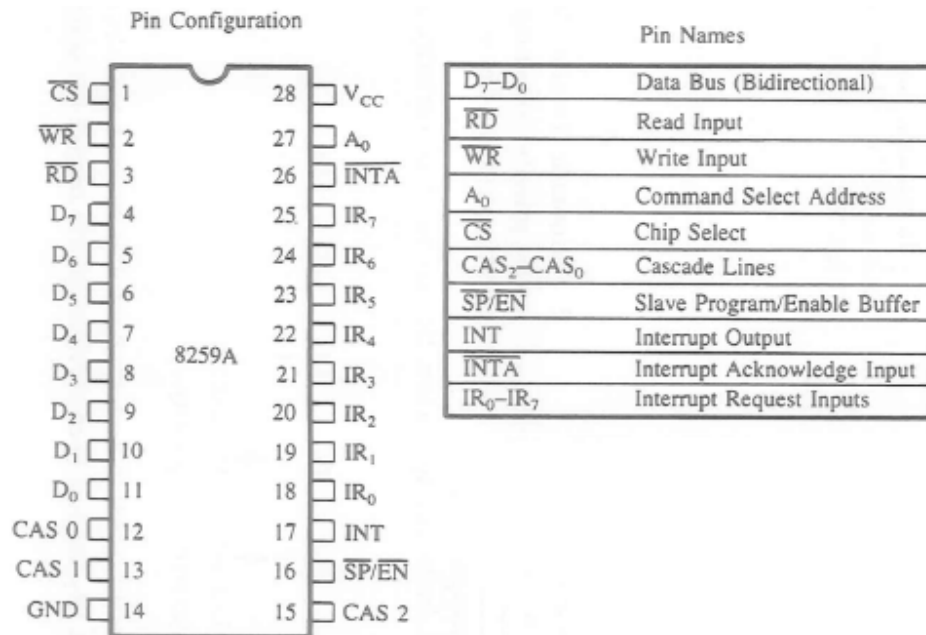
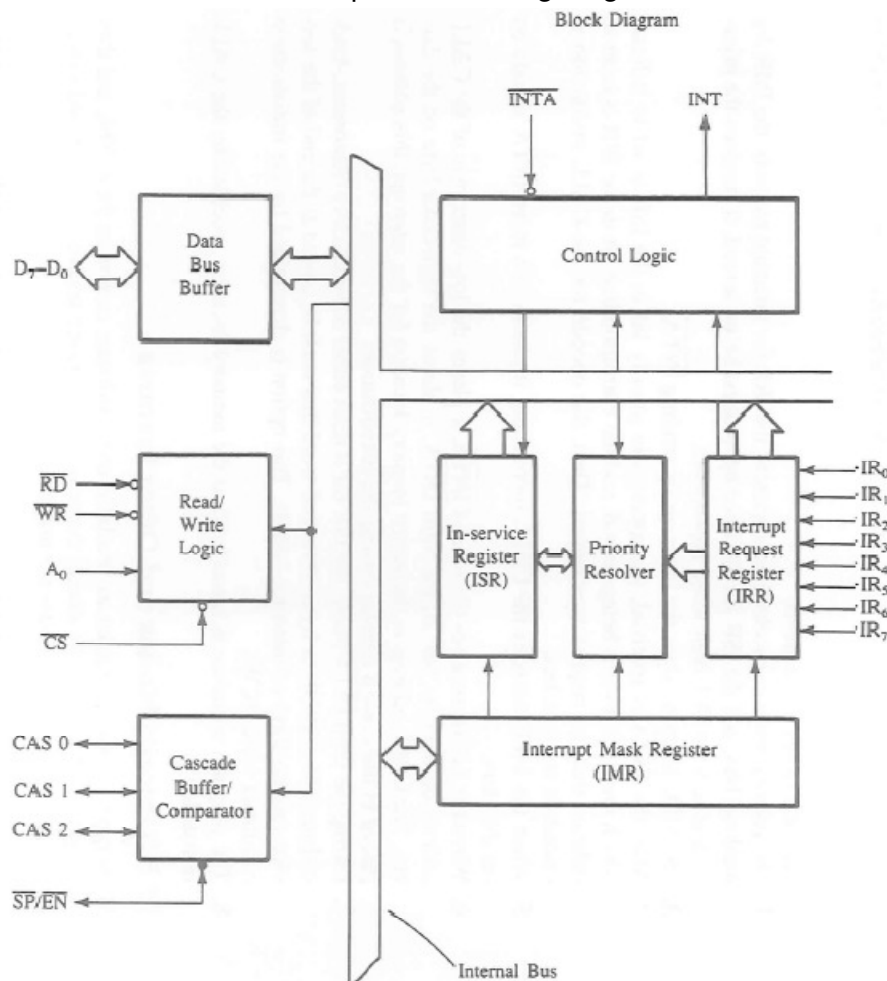

Figure 3.12 Pin Diagram of 8259
Figure 3.13 Internal Block Diagram
- ❖ Figure 3.12 shows the pin details of 8259A and figure 3.13 shows internal block diagram of it.